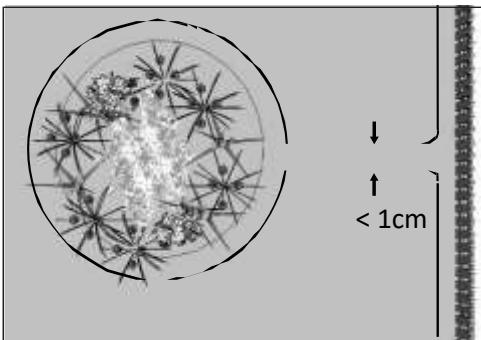

Fig.3B
5. The wires leading to and returning from the Island should be parallel and the distance between the two wires should be less than 1cm , yet not crossing each other. Therefore, fix both wires, to and from the island, on the ground together with the same pegs.(Fig.3B)